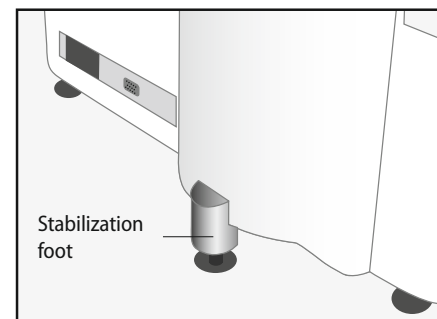

Figure 1.14: Rear of instrument with installed stabilization foot
10. A stabilization foot (see Figure 1.14) is included with the delivery. The foot has to be installed at the back of the instrument.